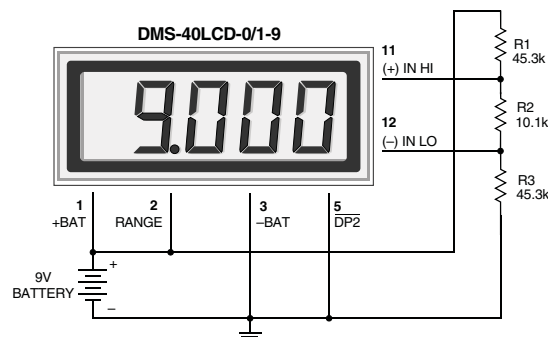

**Figure 8. Power Supply Monitor (9V-Powered Models)**
**6. Power Supply Monitoring:** A popular application for DATEL's low-power LCD meters is monitoring the supply voltage in battery-operated portable equipment. Figure 8 demonstrates how a 9V-powered DMS-40LCD can be used to monitor its own supply. The meter used is the DMS-40LCD-0/1-9 configured for its  $\pm 2\text{V}$  input range (pin 2 connected to pin 1). A three-resistor voltage divider is used to attenuate the battery voltage and also to satisfy the requirement that the input voltages applied to pins 12 and 11 be at least 1.5 Volts above and below the battery voltage applied to pins 1 (+BATTERY) and 3 (-BATTERY). The divider should be designed so that 1/10th the battery voltage falls across the inputs to the meter.